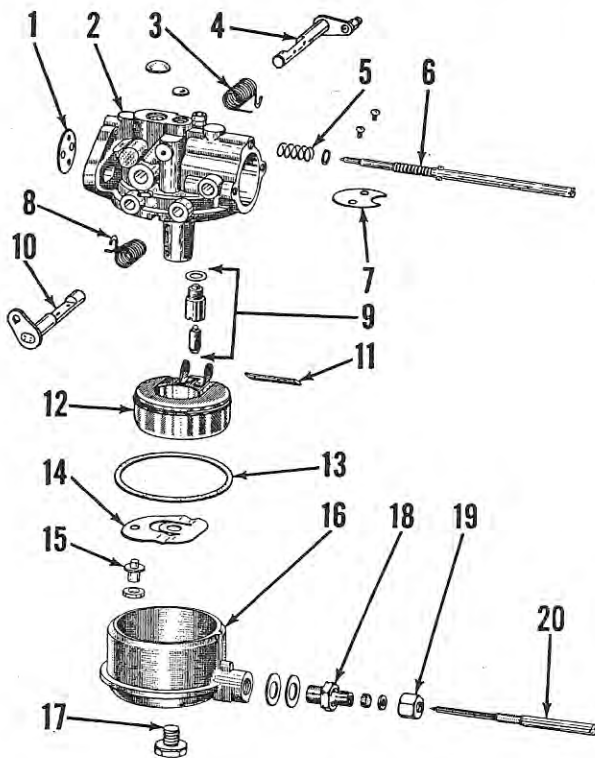

Fig. Mc20 — Exploded view of the N type Carter carburetor typical of the type used on some models.
Carter Model N: Refer to Fig. Mc20. Carburetors are provided with two mixture adjustment needles. The idle mixture needle (6) and high speed adjustment needle (20) should both be initially adjusted to approximately 3/4-turn open, then readjusted under load for best performance after motor is warm. When engine is at normal operating temperature and under load, high speed needle should be adjusted to leanest position which will allow satisfactory acceleration. Clockwise rotation of the needle leans